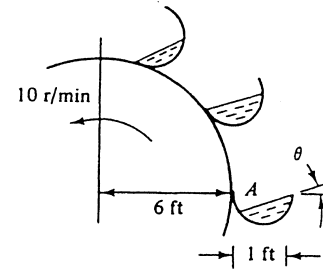

Fig. P2.149
**2.149** The waterwheel in Fig. P2.149 lifts water with 1-ft-diameter half-cylinder blades. The wheel rotates at 10 r/min. What is the water surface angle  $\theta$  at pt. A?